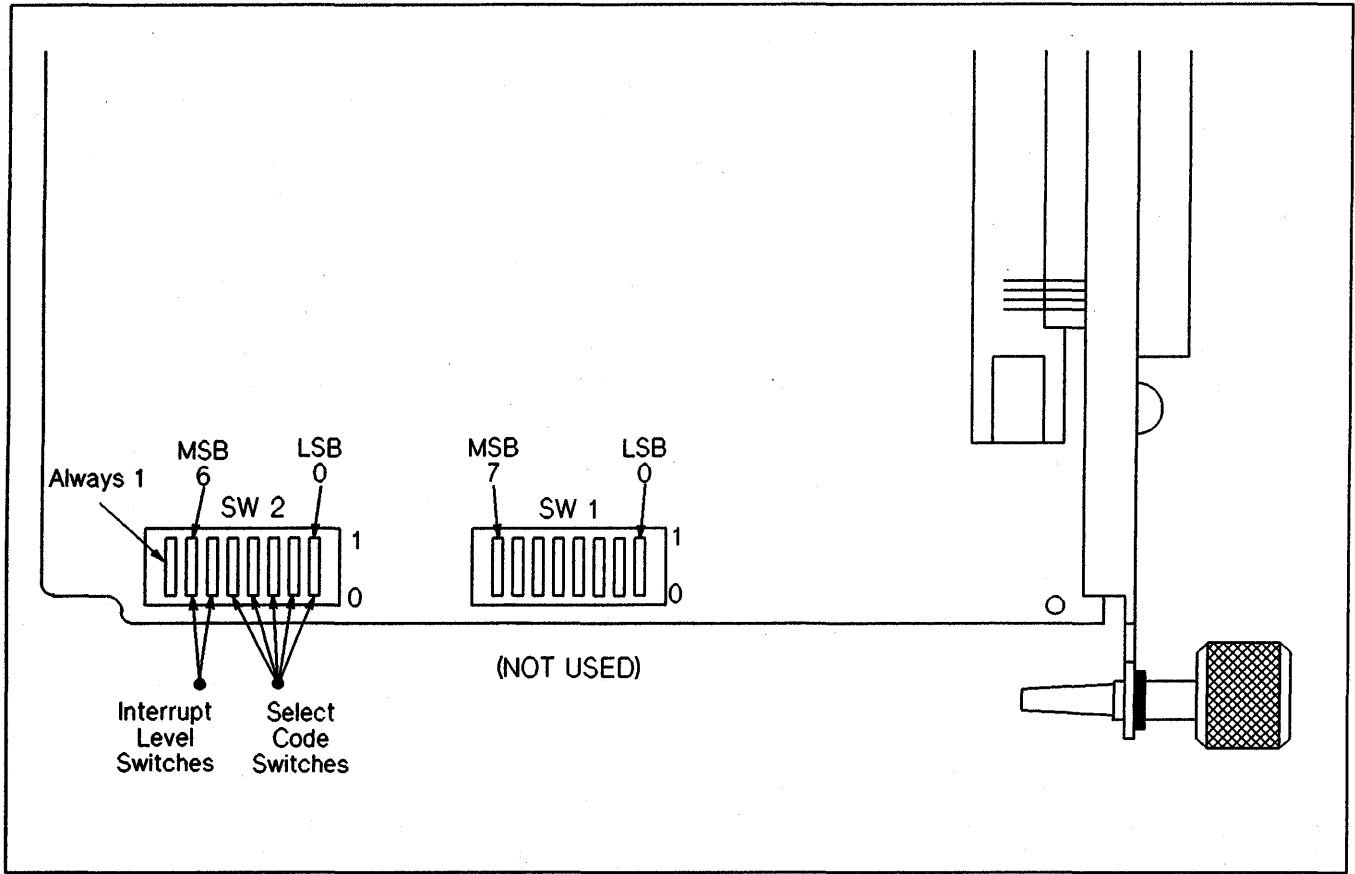

Figure 2-1. Configuration Switches
Two eight-switch packs (SW1 and SW2) are located on the PDI RJE V.35 card as shown in figure 2-1. The left switch pack (SW2) is used to set the hardware interrupt level and the interface select code. The right switch pack (SW1) is not used by the PDI RJE V.35 card.
Each interface must have a unique select code so that it can be accessed by the host computer. On the PDI RJE V.35 card, the select code is set by switches 0 through 4 on the left switch pack shown in figure 2-1. The settings and select codes are shown in table 2-2.
1. Set the switches on the card for proper operation in your system. See figure 2-1 for the locations of the switches and the applicable paragraphs in this chapter for the switch settings.